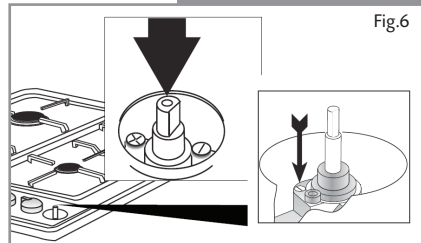

Fig.6
3. Insert a 2.5mm screwdriver into the hole at the top of the tap and turn the adjustment screw fully clockwise as shown in figure 6.